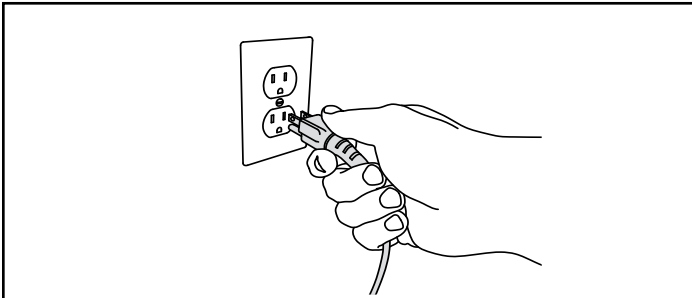

Figure 22.1
3. The appliance receptacle is located on its lower, back right hand corner. Install the cord to the appliance reception and to the wall (**Figure 22.1**).